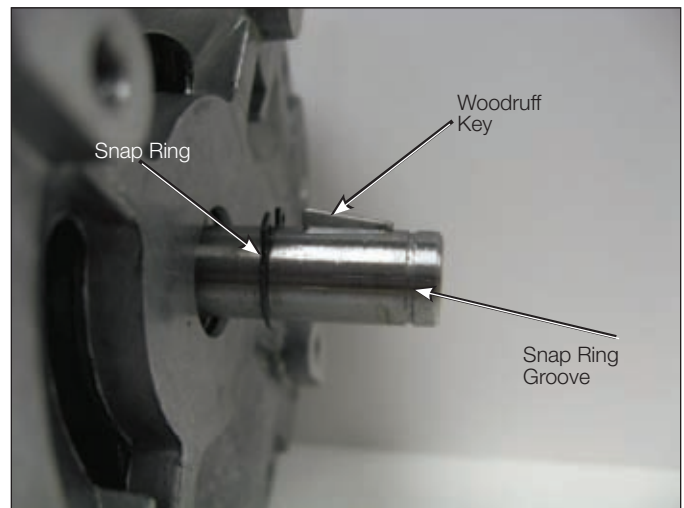

Figure 8.
8. The new motor kit (Part 57A63675100A) has a 12 tooth sprocket for the QD8 and an 11 tooth sprocket for the QD5. The motor shaft has two snap ring grooves and a woodruff keyway. Install one of the supplied snap rings, with a snap ring pliers, into the snap ring groove located behind the woodruff keyway. Install the woodruff key into the keyway with the woodruff key tilted down towards the end of the motor shaft. Refer to Figure 8.